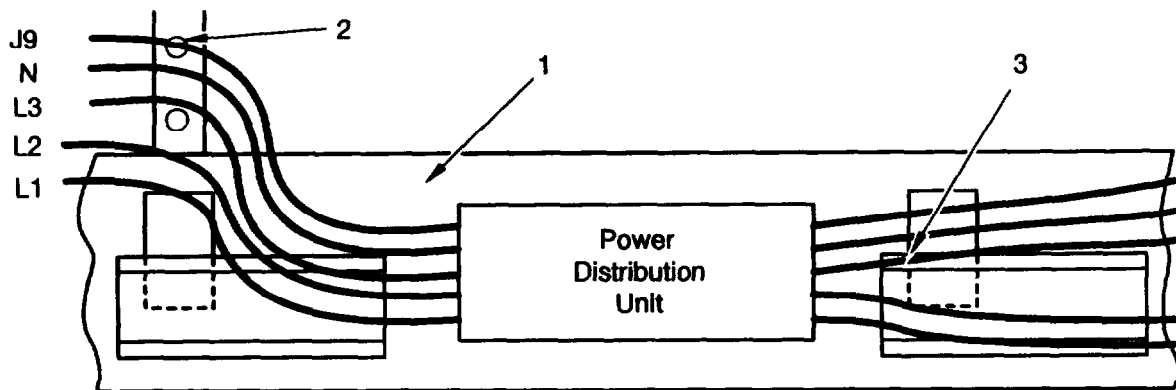

Figure 4-33 Power Distribution Unit, Cable Installation Position.
- c. Using the crane, position power distribution unit (1) approximately 8 inches (20 cm) above pallet frame (18) so that screws (3) align with their holes in the pallet frame.
- e. Lay out the cables as shown in figure 4-33. On the left side of the power distribution unit, cables N, L1, and the control cable must lie against pallet frame (1) between the two holes (2). The other cables pass beneath the cable drum mounts (3), as shown in front of and behind the mount.